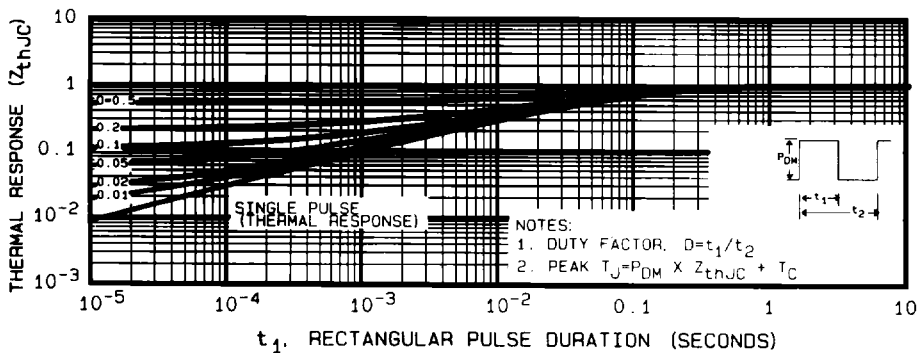

Fig. 5 - Maximum Effective Transient Thermal Impedance, Junction-to-Case Vs. Pulse Duration
1. Repetitive Rating: Pulse width limited by maximum junction temperature (see Figure 5).
$\text{\textcircled{1}}$ Repetitive Rating: Pulse width limited by maximum junction temperature (see figure 5).